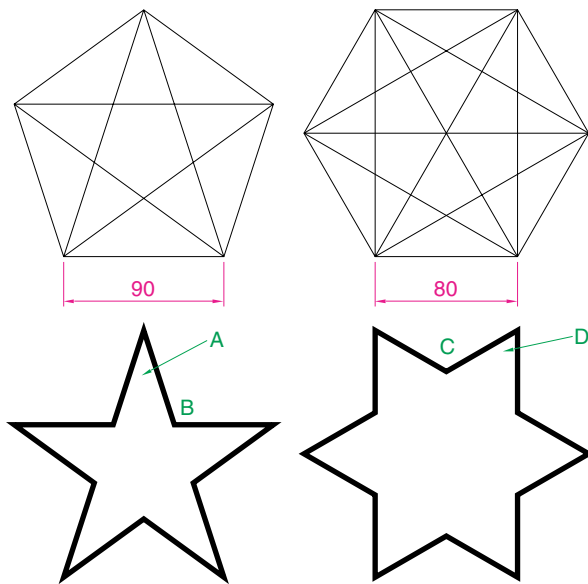

Fig. 6.43 Exercise 3
Second example – the Spelling tool (Fig. 6.43)
3. Construct the two polygons in Fig. 6.43 and add all the diagonals. Then set the two osnaps **endpoint** and **intersection** and using the lines as in Fig. 6.43 construct the stars as shown using a polyline of width = 3. Next erase all unwanted lines. Finally dimension the angles labelled **A**, **B**, **C** and **D**.